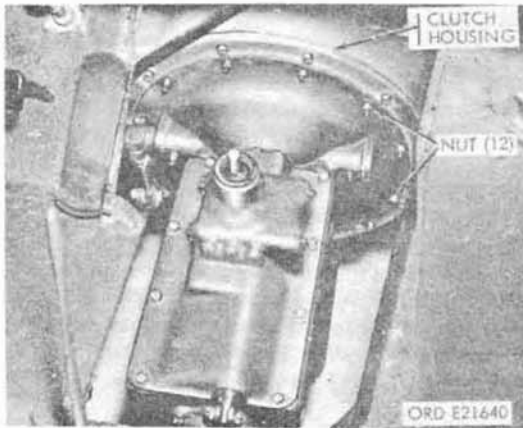

Figure 189. Transmission - removal
3. Remove transmission (fig. 189).